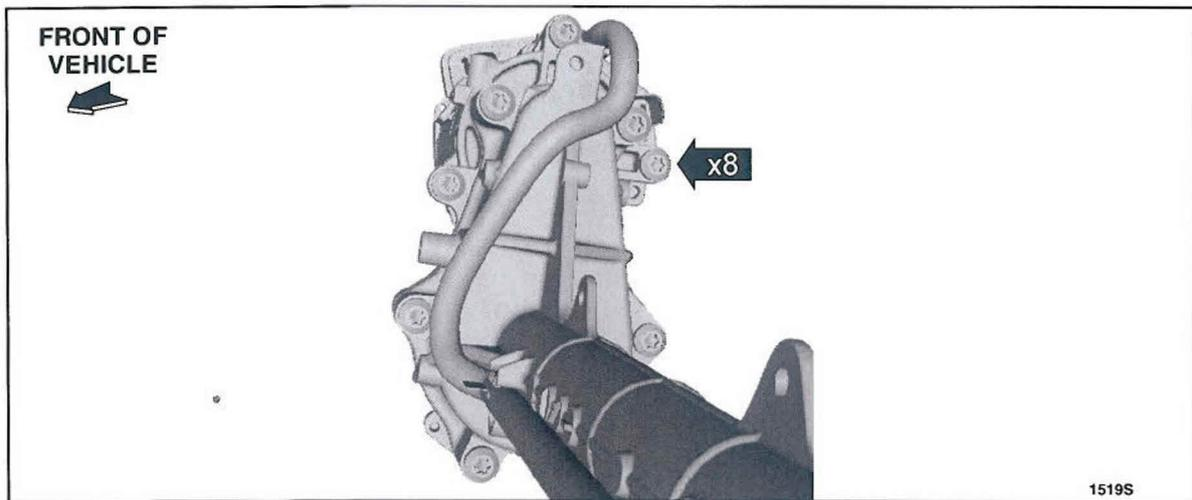

FIGURE 1
**NOTE:** Valugard Rust Inhibitor Aerosol VG-101A or Daubert NOX RUST® 7703-W Corrosion Protection (sealant) must be applied to the eight steering gear bolt heads, threads, and the steering gear motor to gear housing mating seam. See Figures 1 and 2.